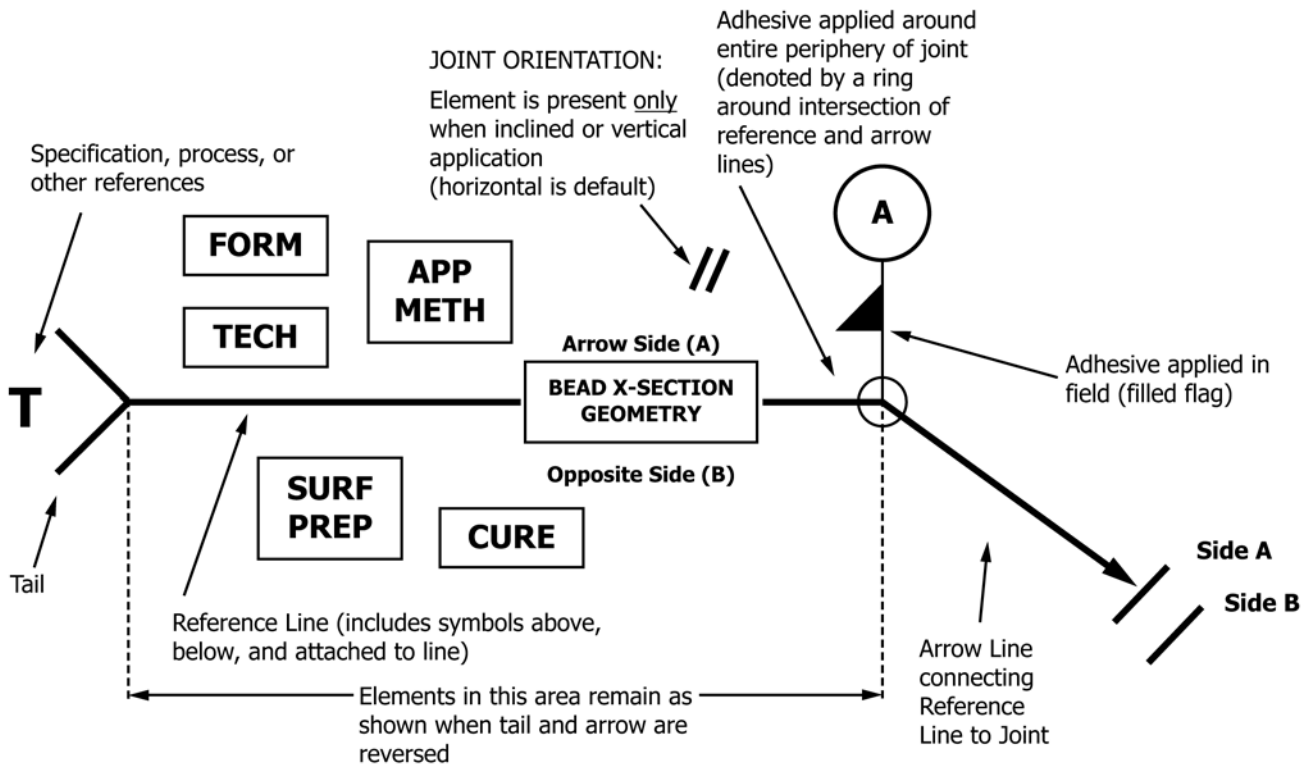
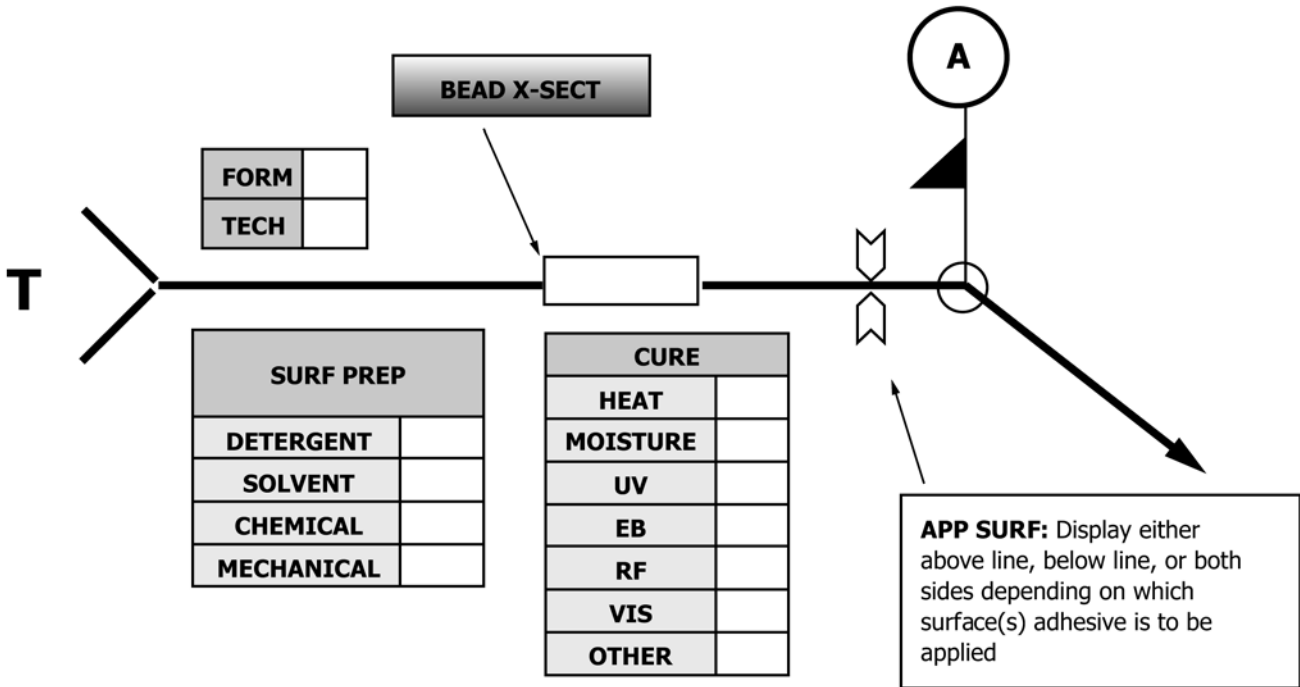

FIG. 1 Standard Locations of Elements of the Adhesive Symbol
FIG. 3 Expanded Detail of Elements of the Adhesive Symbol
3.1 An adhesive symbol provides an efficient means of placing complete information about adhesives on engineering drawings. The joint is the basis of reference for the symbol to which the arrow line is pointed. The reference line of the symbol is used to designate the type of adhesive to be used, including information about its physical form, chemical technology family, requirements for surface preparation, application method (bead versus roll coat), and cure method. The optional tail (shown at left in Fig. 1) provides a place to include additional information about the adhesive that is not referenced in other notations.
3.2 Refer to Fig. 1 for an overview schematic of the adhesive symbol denoted by a mast supporting a circle with the letter “A” inside for adhesive. Detail behind each of the elements noted (for example, FORM, CHEM, APPL METH) can be found in corresponding tables in Section 5.
4.1 The elements represented in Fig. 1 are explained in greater detail in Tables 1-5 and Fig. 2.
4.2 Fig. 3 illustrates an expanded view of the parameters detailed in the tables described in Tables 1-5 and Fig. 2.
5.1 *Symbols With References*—When specifications, processes, or other references are used with the adhesive symbol, the notation is placed in the tail (see “T” symbol in Fig. 1 or Fig. 3). This notation may reflect information about a particular manufacturer’s product or other pertinent data not contained in the symbol elements.